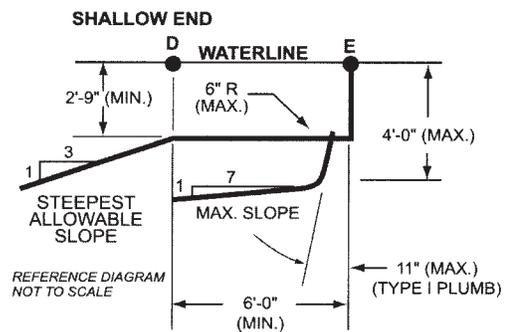

**Figure 4 – Offset ledges**
**5.5.1.1** Offset ledges, located less than 42 inches (1067 mm) below waterline shall be proportionately less than 8 inches (20.3 cm) wide and fall within 11° from plumb, measured from the top of the waterline. See figure 4.